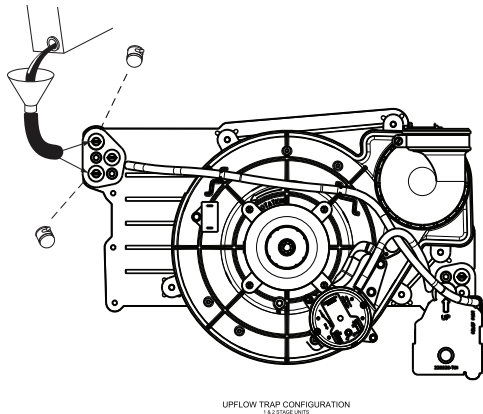

Fig. 62 – Priming Condensate Trap
1. Remove upper and middle collector box drain plugs opposite of the condensate trap. See Fig. 62.
2. Connect field-supplied 5/8-in. (16 mm) ID tube with attached funnel to upper collector box drain connection. See Fig. 62.